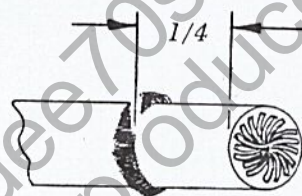

Figure 6—8 Installing High-Tension Lead In Coil After Parts Replacement
6. Strip about 1/8" of insulation off the inner end of the high-tension lead, and fan-out the protruding strands of wire. Make a moisture seal by forming a ring of DC-4 compound around the lead, 1/4" from the end. Do not let the compound spread toward the end of the lead, however, or the DC-4 compound (an effective insulator) may interrupt current flow from coil to lead. (See Figure 6—8.)